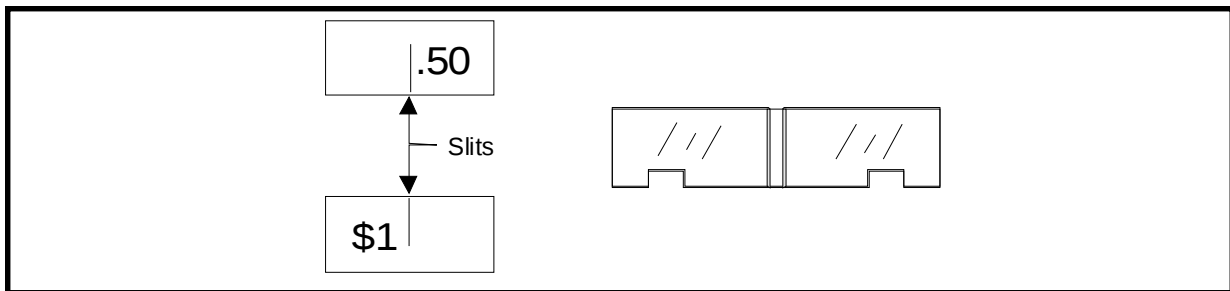

Figure 2-3. Price Label and Label Retainer
16. Install selection labels for each compartment as required. A double or larger compartment requires one selection label that corresponds to its leftmost position. Refer to *Figure 2-3*.
For Example: The shelf is configured for two single compartments, followed by one double compartment, followed by two single compartments (1-1-2-1-1). The selection number labels would be installed as follows: 101 in the leftmost position of the shelf, 201 in the leftmost position of the compartment to the right of the first divider, 301 in the leftmost position of the double compartment to the right of the second divider, 501 in the leftmost position of the compartment to the right of the third divider, and 601 in the leftmost position of the compartment to the right of the fourth divider. Selection number label 401 is NOT used, as its position is part of selection 301. See *Figure 2-3, Shelf 19*.
Repeat the above procedure for each of the remaining shelves. The next number shelf is below the current shelf. See *Figure 2-3*.
17. Price labels are installed just to the right of the selection number labels, with one price label set being used for each selection. See *Figure 2-3*.